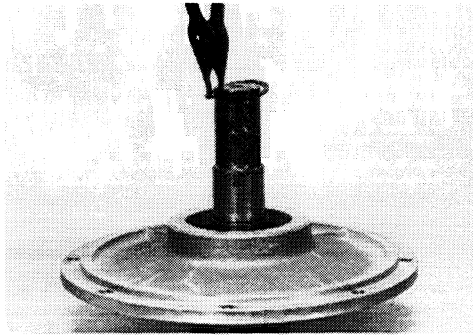

Fig. 29
Remove external snap ring (53) from shaft (Fig. 29).